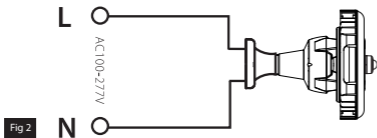
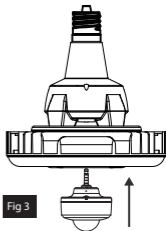

Fig 2
Fig 3
Step: 2 Make sure the Alternating Current (AC) wires connect to the socket directly. Screw the Lightcloud lamp into the corresponding socket as shown in Figure 2. Attach retrofit label to luminaire (included in box). Plug the Lightcloud module securely into the auxiliary port on lamp as shown in Figure 3.